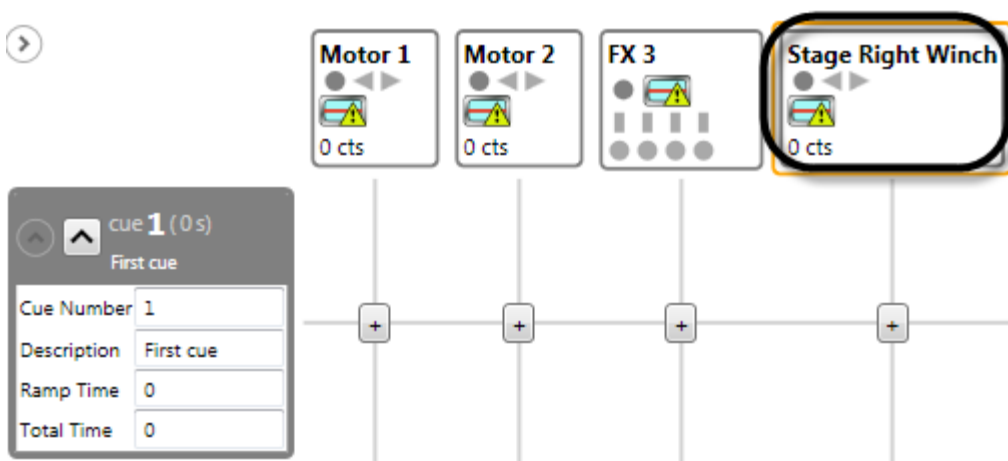

Figure 61
3. Press the **Tab** key or click out of the field, to update the name. The new motor name will be updated in the **Cue Grid** (Figure 61).